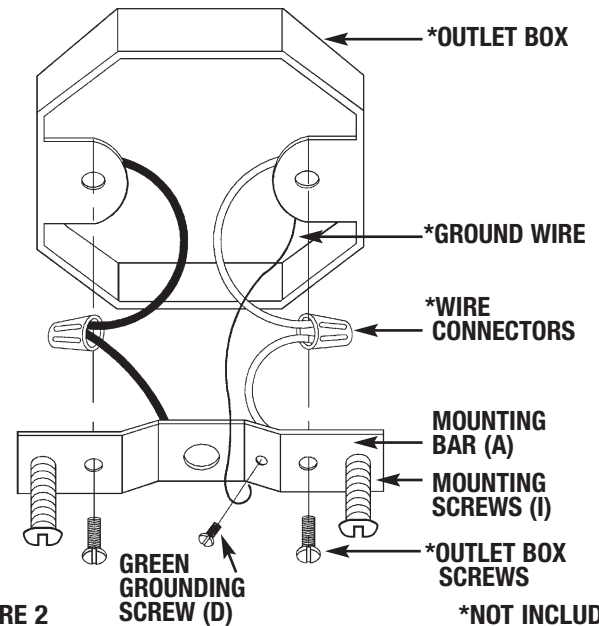

FIGURE 2
GROUNDING INSTRUCTIONS: The green grounding screw (D) is to be inserted into the hole with two raised dimples provided on the mounting bar (A). Wrap the ground wire from the fixture (if supplied) and the ground wire from the outlet box (bare metal or green insulated wire) around the green grounding screw (D) on the mounting bar (A) and tighten green grounding screw (D) to secure. If uninsulated ground wire is on the mounting bar, connect the ground wire from the fixture (if supplied) and the outlet box to it using a small wire connector (not supplied) (See Figure 2). **NEVER CONNECT GROUND WIRE TO BLACK OR WHITE POWER SUPPLY WIRES.**